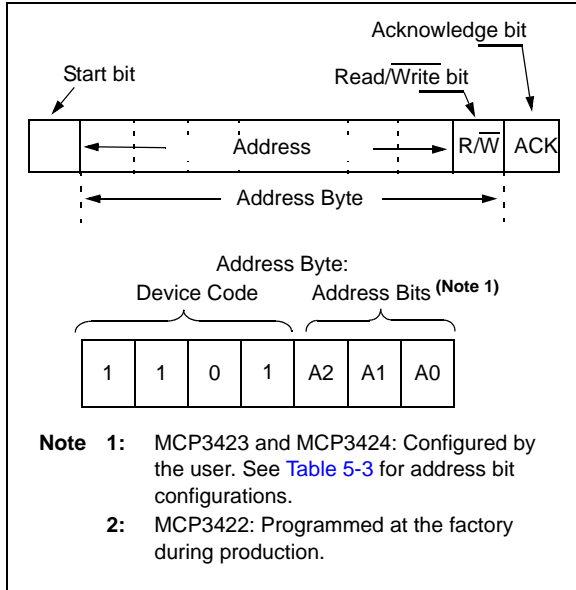
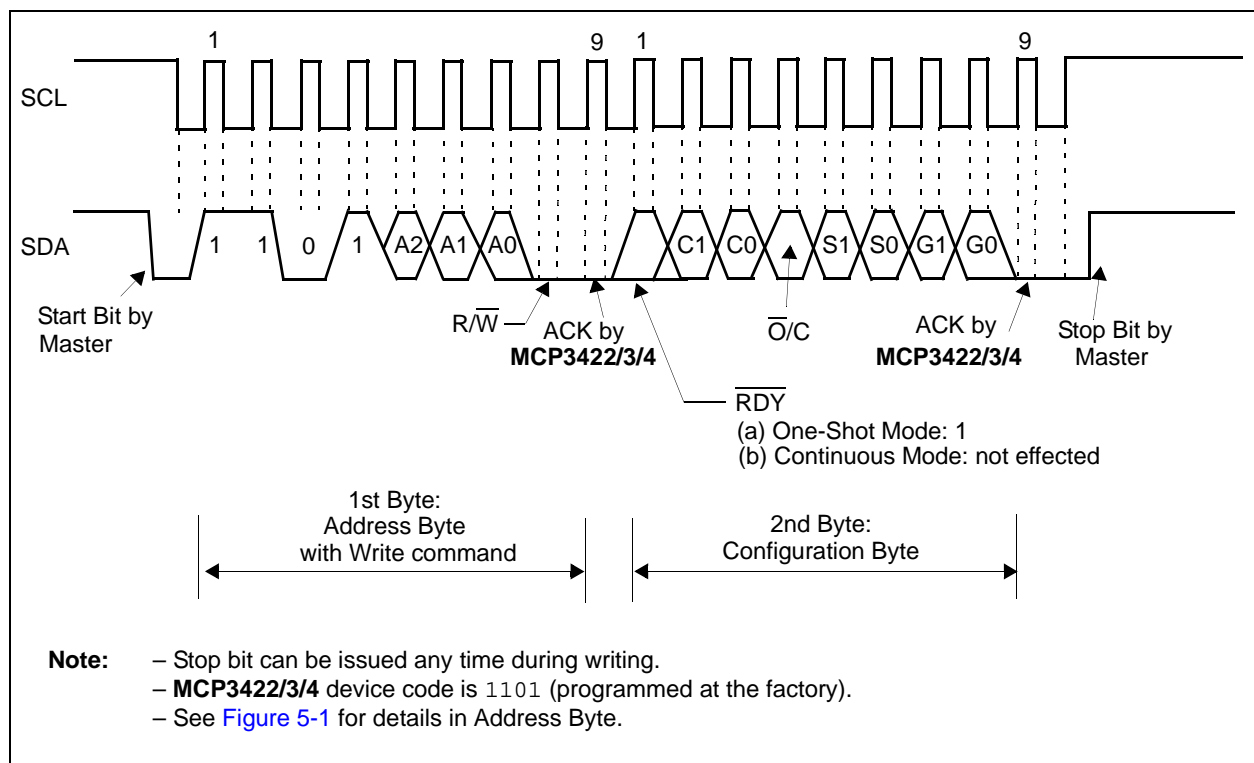
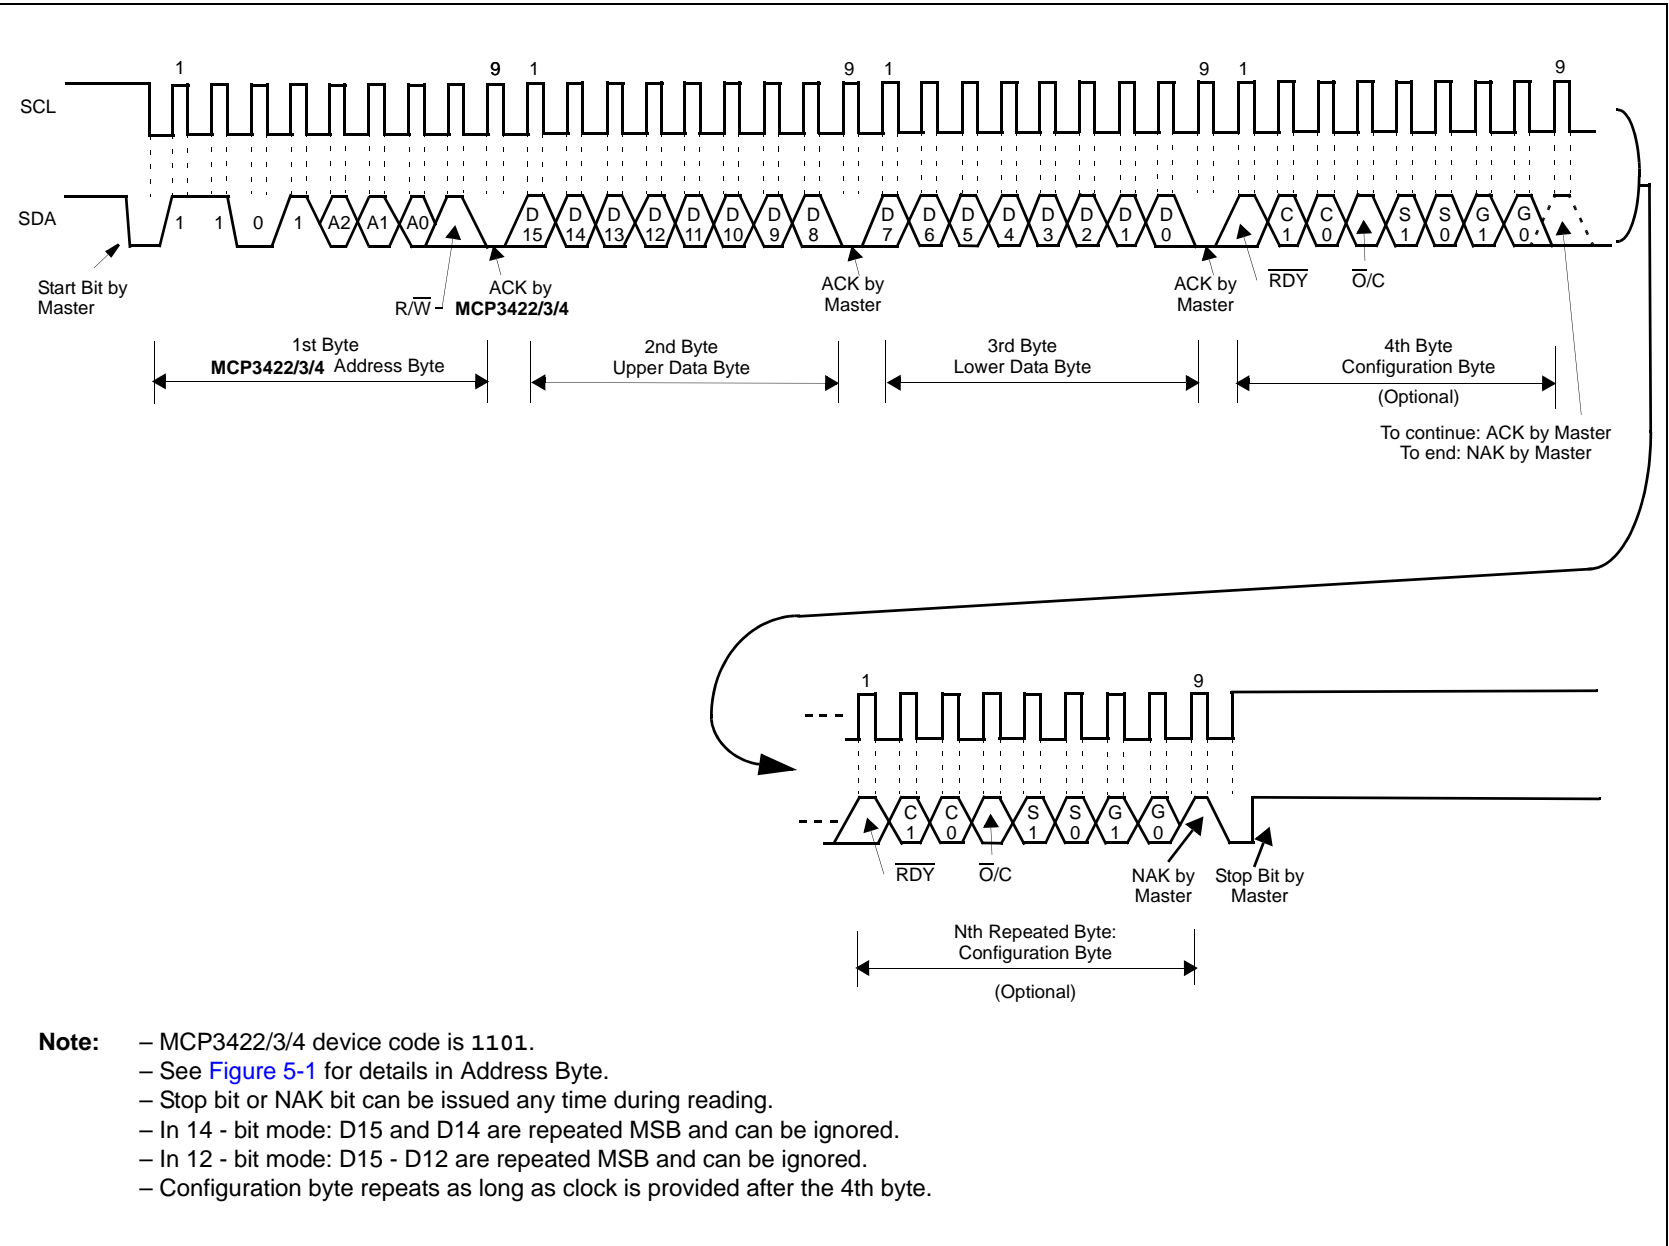

FIGURE 5-1: Address Byte.
FIGURE 5-3: Timing Diagram For Writing To The MCP3422/3/4.
FIGURE 5-5: Timing Diagram For Reading From The MCP3422/3/4 With 12-Bit to 16-Bit Modes.
Figure 5-4 and Figure 5-5 show the examples of reading the conversion data. The user can rewrite the configuration byte any time for a new setting. Table 5-1 and Table 5-2 show the examples of the configuration bit operation.
The first byte after the START bit is always the address byte of the device, which includes the device code (4 bits), address bits (3 bits), and R/W bit. The device code for the devices is 1101, which is programmed at the factory. The I²C address bits (A2, A1, A0 bits) for the MCP3423 and MCP3424 are user configurable and determined by the logic status of the two external address selection pins on the user's application board (Adr0 and Adr1 pins). The Master must know the Adr0 and Adr1 pin conditions before sending read or write command. Figure 5-1 shows the details of the address byte.
Figure 5-1 shows the address byte. Figure 5-3 through Figure 5-5 show how to write the configuration register bits and read the conversion results.
- See Figure 5-1 for details in Address Byte.